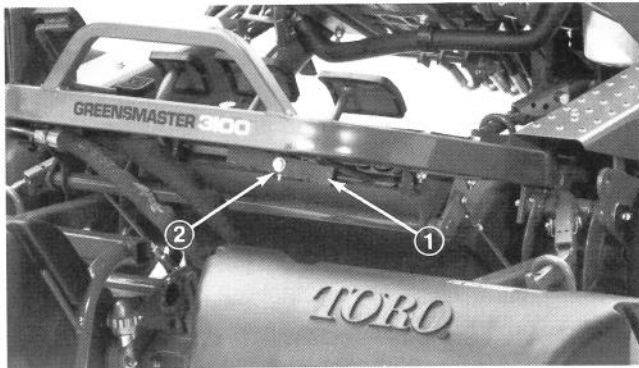

Figure 45
LEVELING LIFT AND MOW PEDALS (Fig. 45)
2. Check distance between bottom of pedal and foot-rest as shown in Fig. 45. Distance should be approximately 3/16". If distance is greater or less than 3/16" dimension, an adjustment to the traction control rod is required.